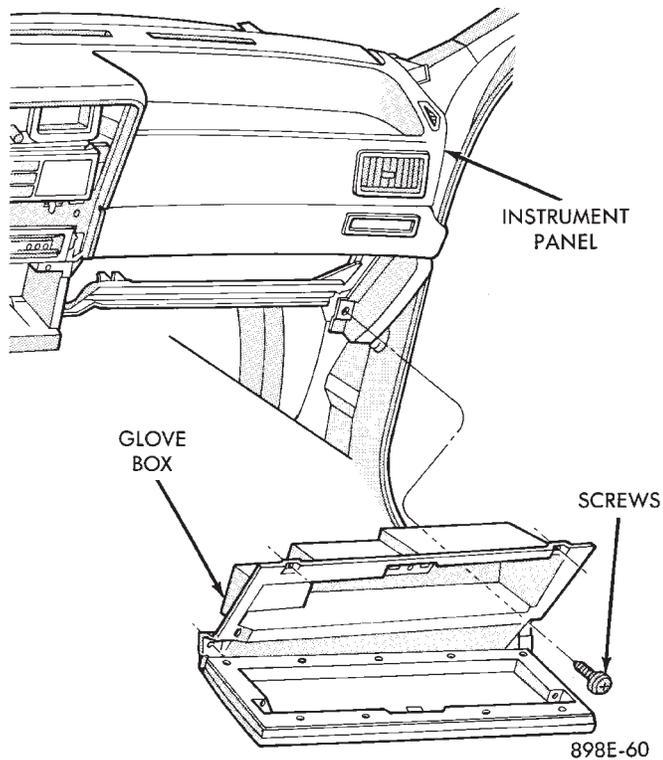

Fig. 48 Glove Box Assembly
- (1) Open glove box door and disconnect check strap.
- (2) Remove glove box light and switch by squeezing retaining tabs from behind switch mount and slide rearward. Disconnect wiring connectors.
- (3) Remove 11 screws from glove box assembly (Fig. 48).